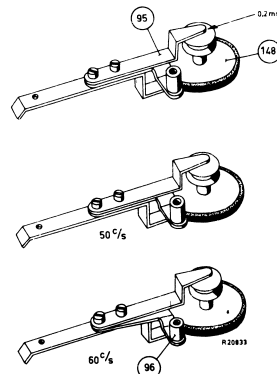

Fig 45
- A play of approx. 0.2 mm should be between the idler wheel 148 and bracket 95 (see fig. 45).
- The mounting of the bearing bracket 96 differs with the 50 c/s and 60 c/s apparatus (see fig. 45). When modifying from 50 c/s to 60 c/s or vice versa the bearing bracket 96 must be mounted as shown in fig. 45.